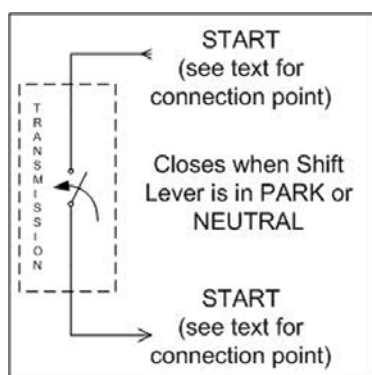

Figure 8
**START** - These wires are connected to a switch inside the transmission that connects Start circuit when the transmission is in the Park or Neutral Position. This creates a 'neutral safety' feature that ensures the engine will only start when the transmission is in Park or Neutral. (See Figure 8) Find the +12V switched ignition wire going to your starter, remove it at the starter and connect it to one of the two **START** wires. Connect to your starter to the remaining **START** wire.